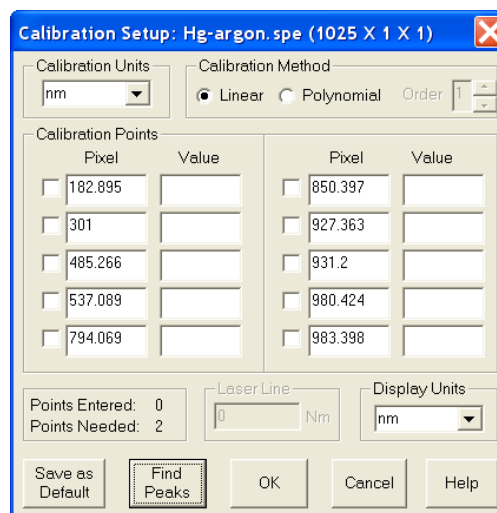
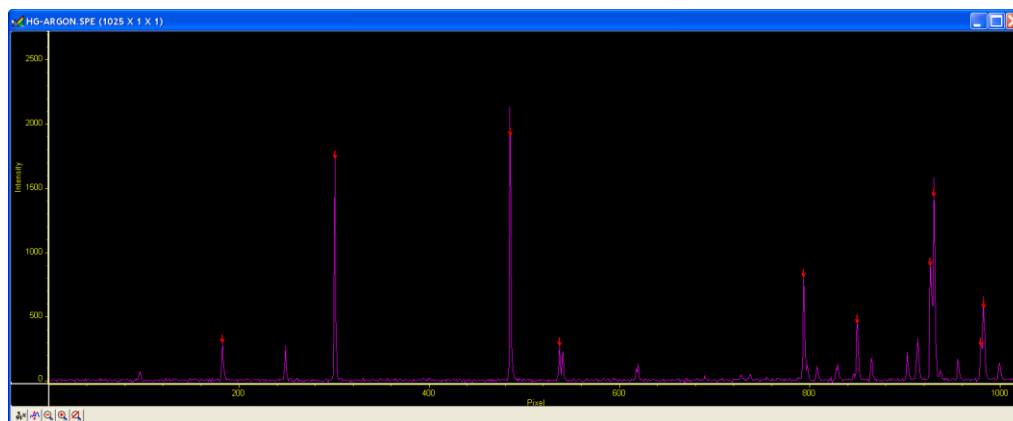

Figure 58. Calibration Setup dialog after running Find Peaks routine on Hg-Argon spectrum
Figure 59. Spectrum after running Find Peaks routine
2. Click on **Find Peaks**. An automatic peak finding routine will be performed. The *maximum* number of peaks is equal to one quarter the number of displayed pixels. The pixel values for the 10 highest peaks will be shown in the Pixel boxes in the Calibration Setup dialog as shown in Figure 58. Note that the Find Peaks routine causes a small red arrow to be displayed above each peak found in the spectrum together with a notation indicating the peak location in pixels (Figure 59).